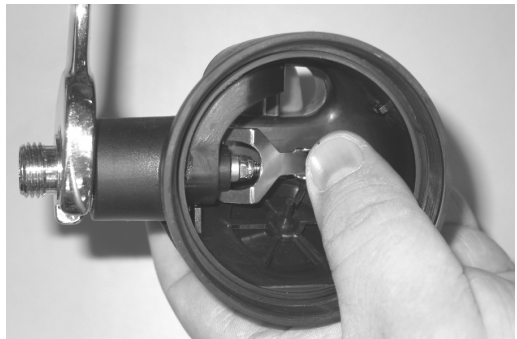

Fig. 2
5. Depress the LEVER ARM (9). While holding it down, remove the INLET COUPLING (3) in a counterclockwise direction using a 3/4" open end wrench (Fig. 2). Remove the COUPLING O-RING (4) from the INLET COUPLING and inspect for any signs of decay. Discard if found.